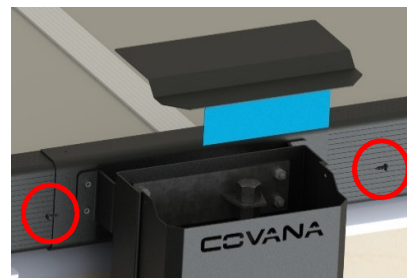

Figure 5
5. Remove the top plate from each of the four sleeves by removing the two screws on each side of the top plate (Figure 5).